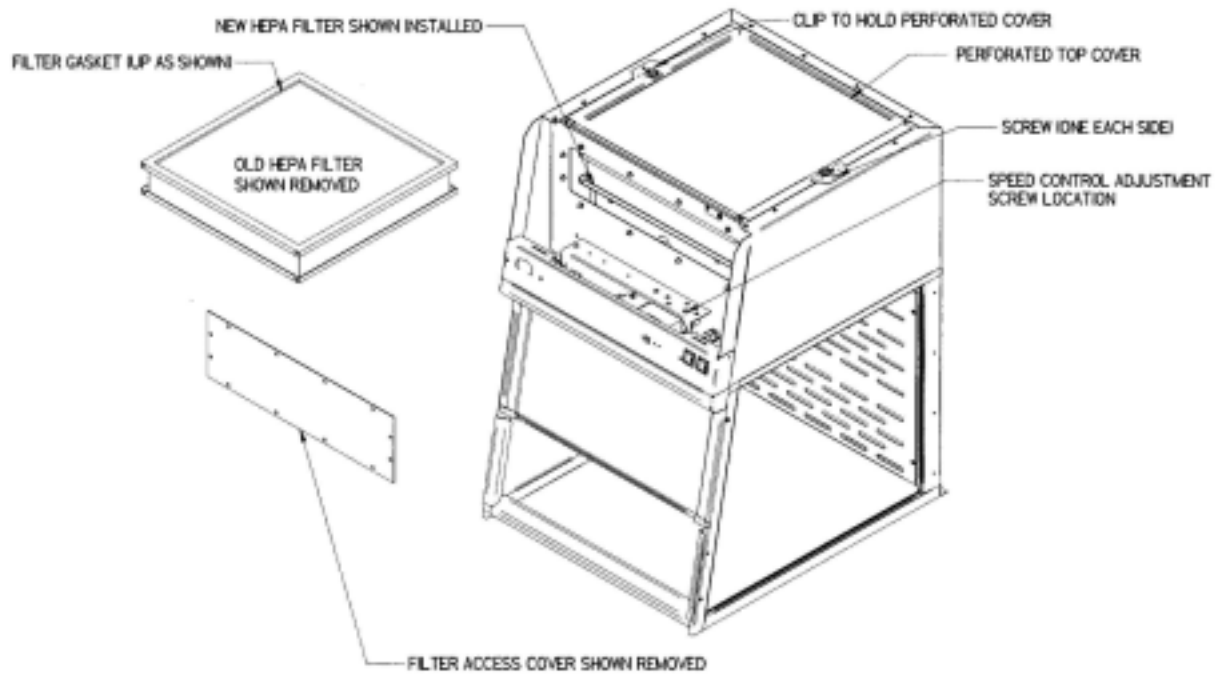

Figure 6-1
NOTE: The enclosure must be properly decontaminated before servicing the HEPA filter. Only a qualified certifier should service the HEPA filter. After the HEPA filter is replaced, the enclosure **MUST** be certified. See Figure 6-1.
After installing the new HEPA filter, the HEPA filter should be leak checked. This test is performed to determine the integrity of the HEPA filter, the filter housing, and the filter mounting frames. Leak testing is to be done by a qualified technician with calibrated equipment. Remove the top perforated exhaust cover by using a Phillips screwdriver to unfasten the (2) screws used to secure (2) clips. See Figure 6-1. The filter passes the leak test at .01% or better. Reference Leak Testing and Photometer scanning from the Institute of Environmental Services (IES-RP-CC001.3)
1. Remove the front panel by loosening the (2) Phillips screws on top that secure the front panel.
2. The speed control is located on the electrical subassembly located behind the switched control panel and below the front panel. See Figure 6-1.